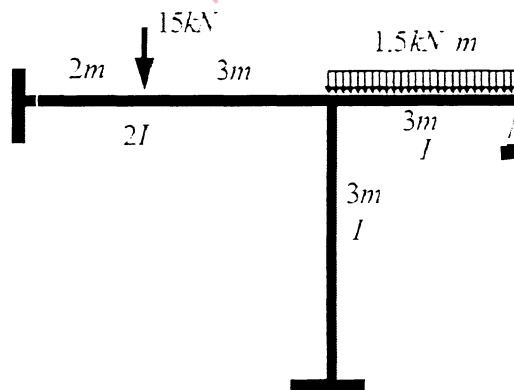

Fig. 2
- 3 Analyse the 2D frame shown in Fig. 2, using slope deflection method. Draw BMD. (15)
- 4 Analyse the 2D frame shown in Fig. 2, using moment distribution method. Draw BMD. (15)
- 5 a) Derive expressions for stiffness at the near-end and carry over factor for a beam (8)